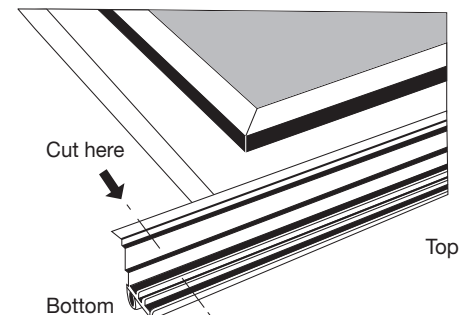

Fig. 2
Fig. 2 - Subtract 3/16" from the height - this is your trim length. Starting at the top of the door, measure and mark hinge side jamb (B) piece at your trim length. Cut the bottom of each of the jambs.